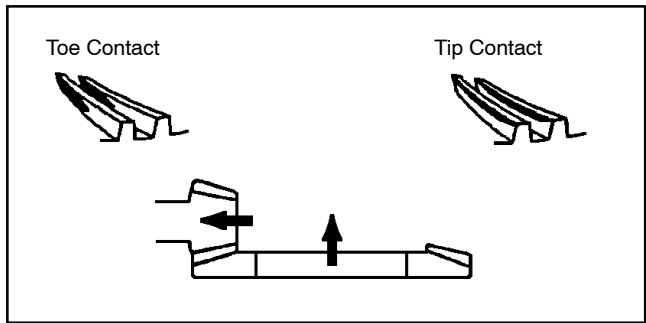

Figure 43
2. If contact is toward the toe or tip of the gear (Fig. 43):